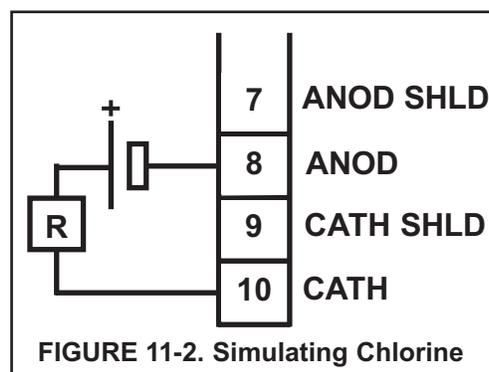

FIGURE 11-2. Simulating Chlorine
1. Disconnect the anode and cathode leads from terminals 8 and 10 on TB1 and connect a decade box and 1.5V battery as shown in Figure 11-2. It is not necessary to disconnect the RTD leads.